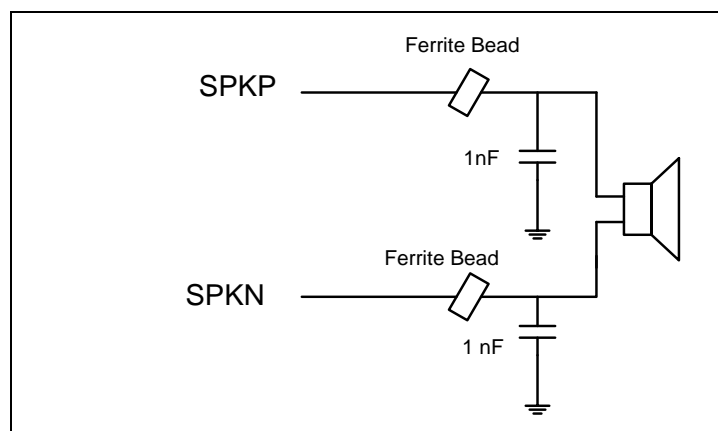

Figure 17 NAU83G20 Speaker Connections with Ferrite Bead Filters
**Ferrite Bead Filters** are used to reduce high-frequency emissions. The characteristic of a Ferrite Bead Filter is such that it offers higher impedance at high frequencies. For better EMI performance, select a Ferrite Bead Filter which offers the highest impedance at high frequencies, so that it will attenuate the signals at higher frequencies. The typical circuit diagram using a Ferrite Bead Filter for each output to the speaker is shown Figure 17 NAU83G20 Speaker Connections with Ferrite Bead Filters.